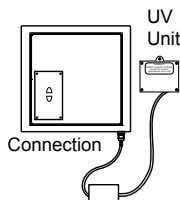

Figure 2
1. Turn the breaker to the spa OFF. DRAIN YOUR SPA. Disconnect the CLEARRAY System from the controller, Figure 2.